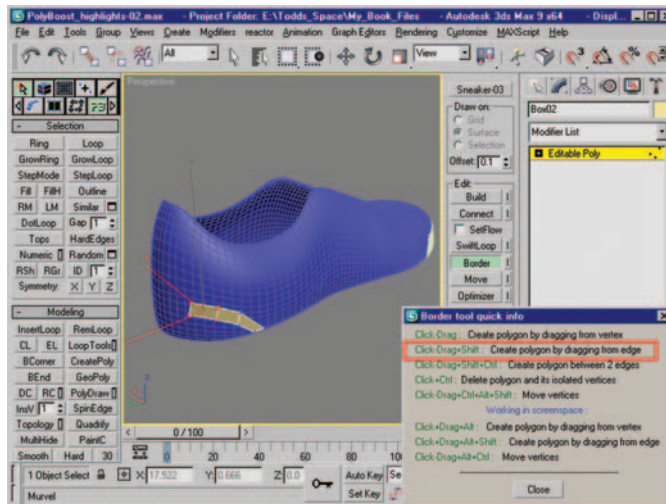

Figure 12.31 Additional polygons created with Border. Holding down Shift while dragging creates new polygons along the surface of the mesh.
6. While holding down the Shift key, drag from the edge of the polygon created in the last step. Repeat the process to create another polygon. Figure 12.31 shows two additional polygons created with the Border tool.